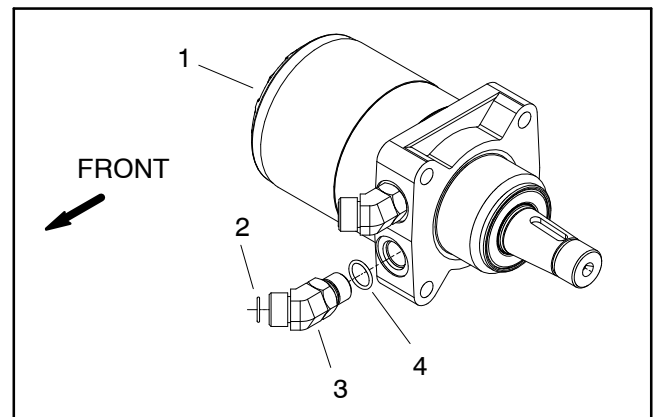

Figure 48
4. Remove wheel assembly (item 1), brake drum (item 23), wheel hub (item 22) and brake assembly (item 3) from the machine (see Brake Service in the Service and Repairs section of Chapter 6 - Chassis).
9. Remove four (4) cap screws that secure wheel motor and brake support to the machine.
11. If removal of wheel motor hydraulic fittings is necessary, mark fitting orientation to allow correct assembly. Remove hydraulic fittings from wheel motor (Fig. 48). Remove and discard O-rings from fittings.